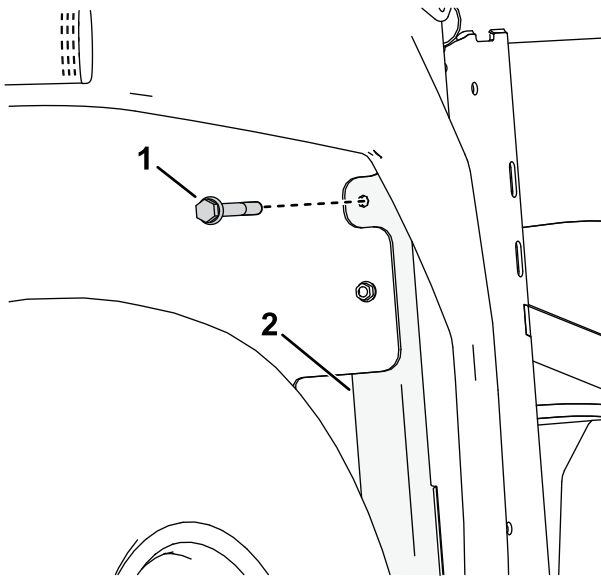

Figure 10
- Insert the striker bolt (5/16 x 2-1/2 inches) through the drilled hole in the front of the frame tube (Figure 10).